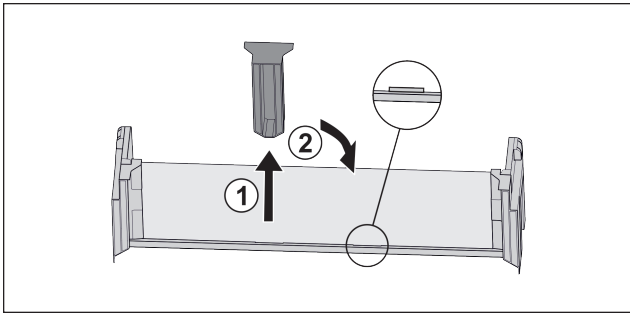

Fig. 85
- ▶ Pull off the middle holder Fig. 85 (1).
- ▶ Insert the middle holder in the second position Fig. 85 (2).